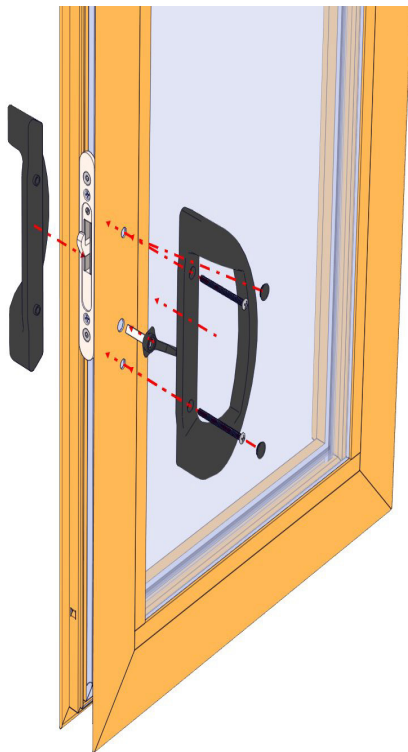

Fig. 29
1. Install handle set using provided screw and caps. (Fig. 29)